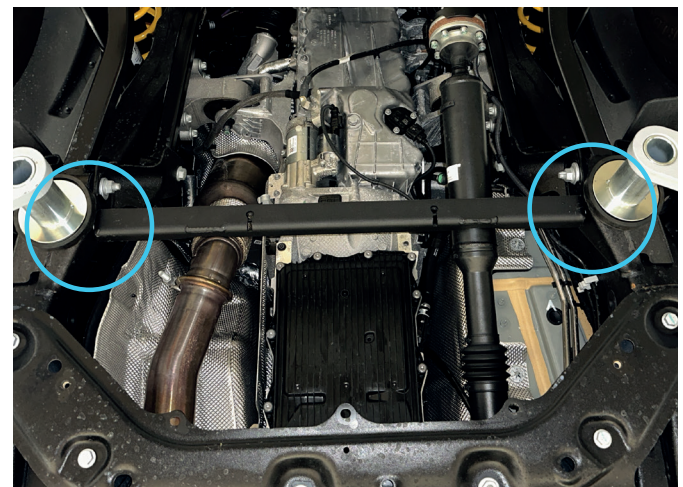

Fig. 4
*If you install with RIVAL engine skid plate, unscrew the beam and remove the spacer from step 3 of the RIVAL engine skid plate installation manual. Install the front arm skid plates (right and left) (items 3,4) with the engine skid plate beam using bolts M10x140, washers 10 and nuts M10 (items A,B,C) (Fig. 4).